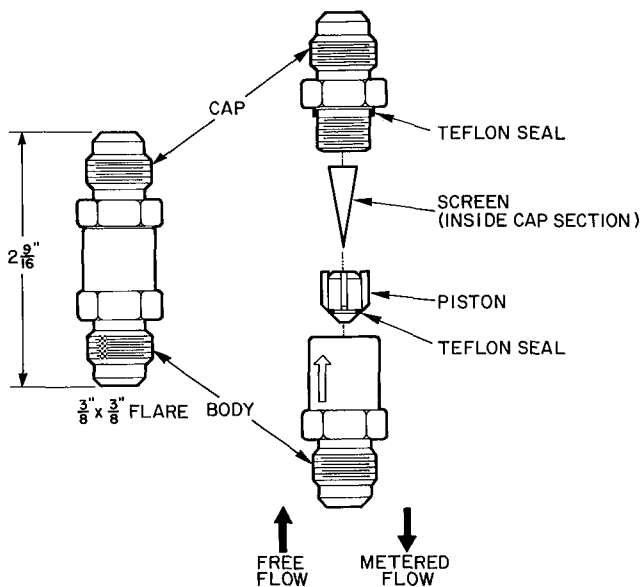

Fig. 6 — AccuRater Assembly
6. Assemble and install AccuRater™. See Fig. 6. AccuRater body is marked with an arrow that indicates the free flow direction. AccuRater piston must be installed with teflon seal facing the opposite direction of the arrow.